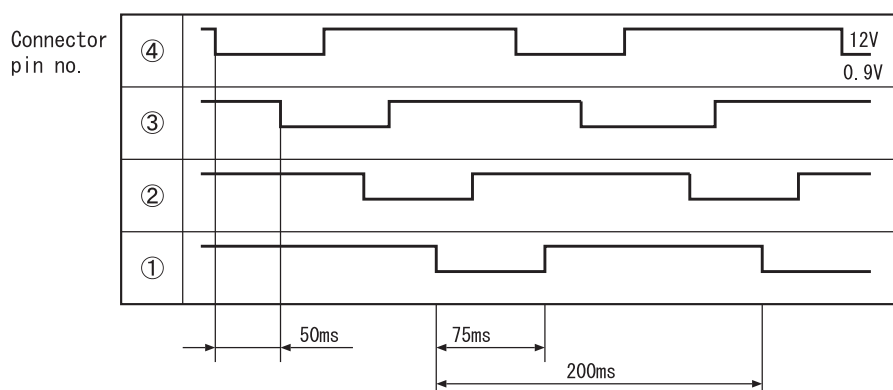

Fig. 5-2
- Relationship between power switching direction of phase and open/close direction is shown below. When power is supplied, voltages at pins ④ to ① of CN15 are about 0.9V and 12V when no power is supplied. When power is reset, initial operation is performed for 10 or 20 seconds. During initial operation, measure all voltages at pin ④ to ① of CN15 by using a multimeter. If there is any pin with voltage that has not changed from 0.9V or 12V, expansion valve or microcomputer is broken.
- Fig. 5-2 shows logic waveform when expansion valve is operating.